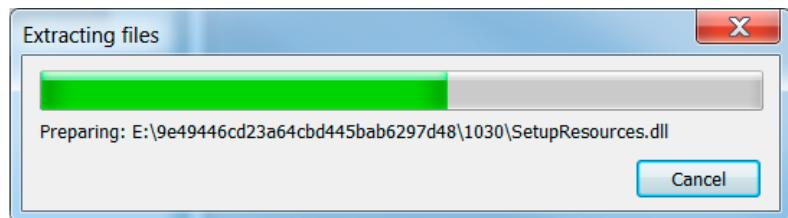

Figure 4-9. Extracting Files
12. During the installation process, some files are extracted, as shown in the example in Figure 4-9.